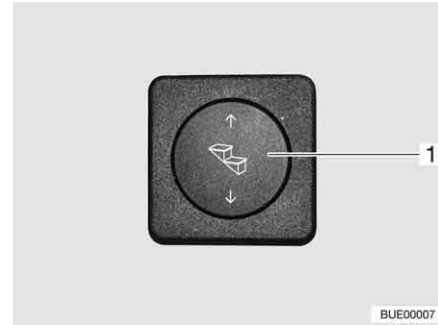

Fig. 11 Operating button for entrance step
- Press the rocker button (Fig. 11,1) down and hold it pressed (at least 3 seconds) until the entrance step has extended completely.
- Press the rocker button (Fig. 11,1) up until the entrance step has retracted completely.